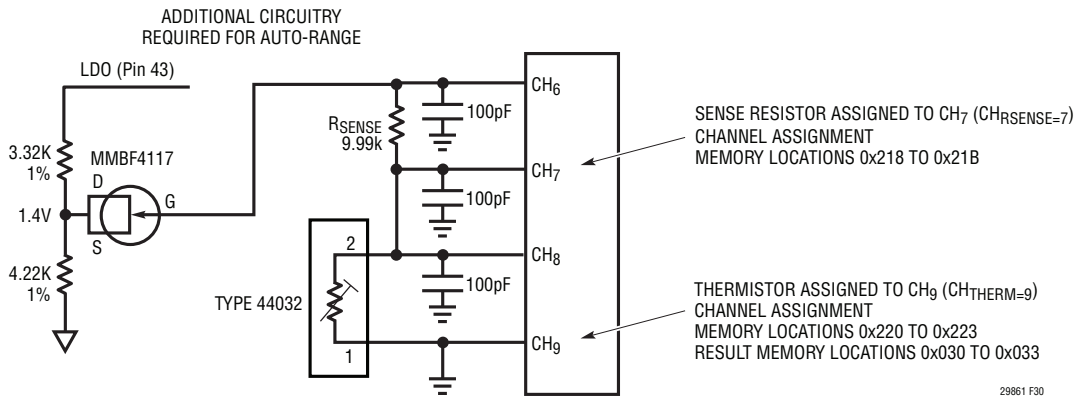

Figure 30. Differential Thermistor Example
*Additional Circuitry required for auto-range, see Figure 30 on page 56.
Figure 30 shows a typical temperature measurement system using a differential thermistor. In this example a $30k\Omega$ (44032 type) thermistor is tied to a $9.99k\Omega$ sense resistor. The thermistor is assigned channel CH_9 (memory locations $0x220$ to $0x223$) and the sense resistor to CH_7 (memory locations $0x218$ to $0x21B$). Channel assignment data is shown in Table 62 and Table 63).
Note 1: Additional Circuitry required for thermistors using auto-range. See Figure 30.